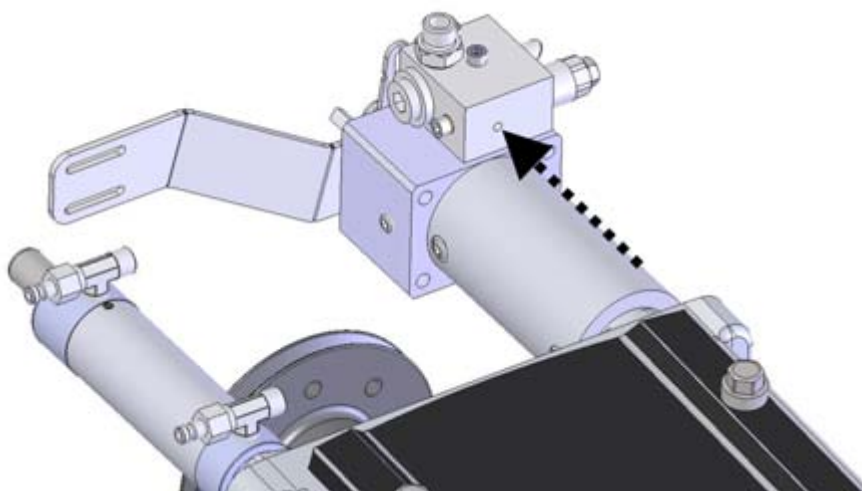

Figure 25. Attaching the oil pressure hose
5. Screw the oil pressure hose into place (figure 25).